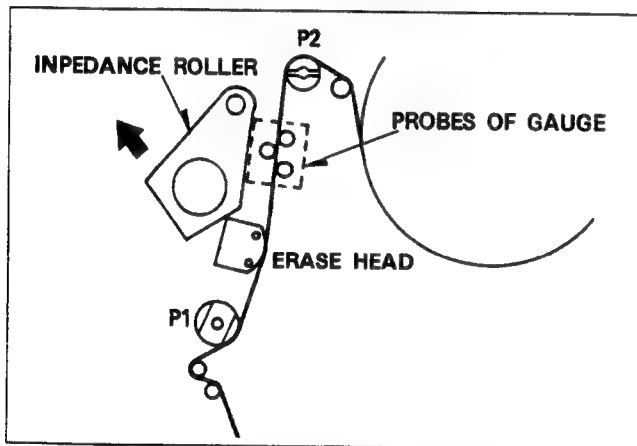

Figure M34-A Measurement of Back Tension
2. Pull the Impedance Roller in the direction indicated the arrow in Figure M34-A secure it with a piece of adhesive tape.